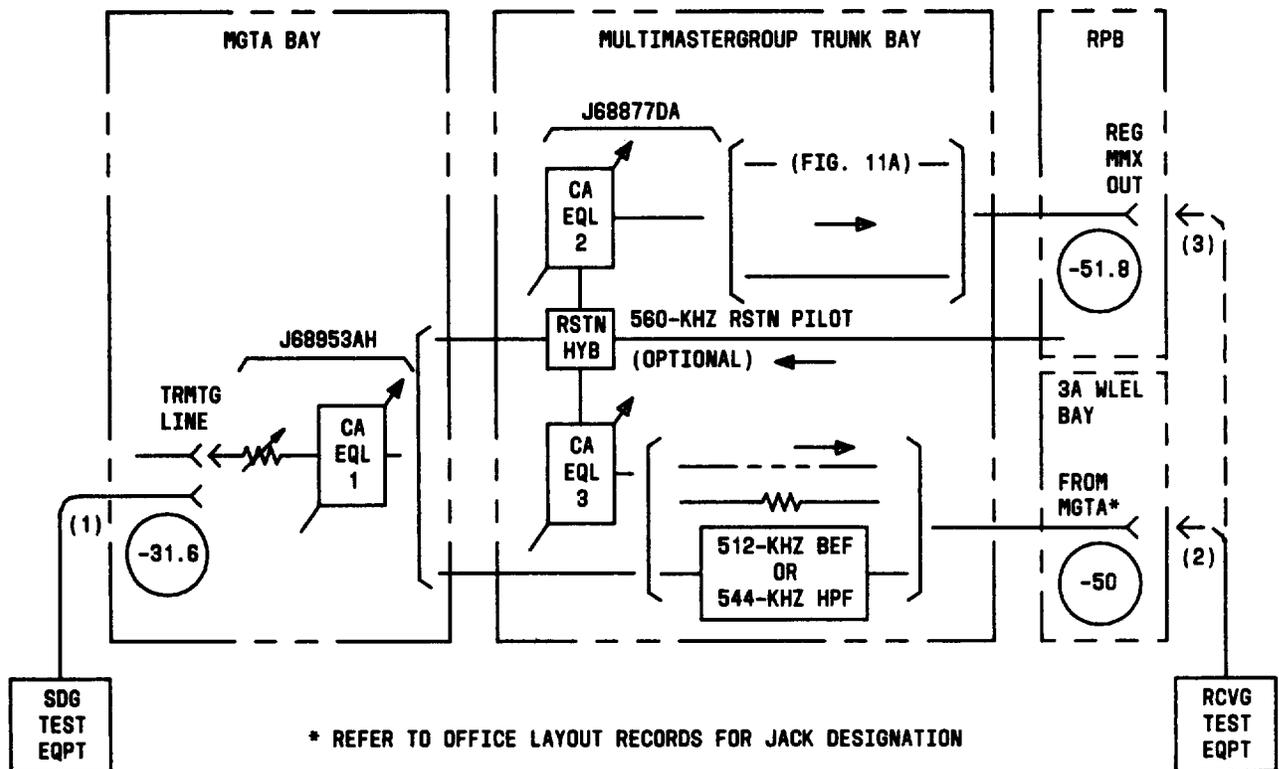

Fig. 9—◆Transmitting Trunks for MGTA◆
5	Connect the STE to the plug removed from the TRMTG LINE jack in the MGTA bay [patch (1), Fig. 9].
6	Connect the RTE to the appropriate FROM MGTA jack in the WLEL bay [patch (2), Fig. 9]. Note: Jack designations in a WLEL bay are not the same for all radio systems. Refer to office layout records for jack designation.
10	Remove patch (2), Fig. 9.
11	Connect the RTE to the REG MMX OUT jack in the restoration patch bay [patch (3), Fig. 9].
14	Proceed to Step 15 if the requirement of Step 12 is met. Otherwise, continue signal tracing to locate and clear the trouble. Then repeat Steps 11 through 13, as required. Note 1: A zero-loss trunk (Fig. 11A) may be used in conjunction with this trunk. In this case, the zero-loss trunk should be tested as prescribed in Chart 10A. The zero-loss trunk is indicated in Fig. 9 by the designation Fig. 11A.